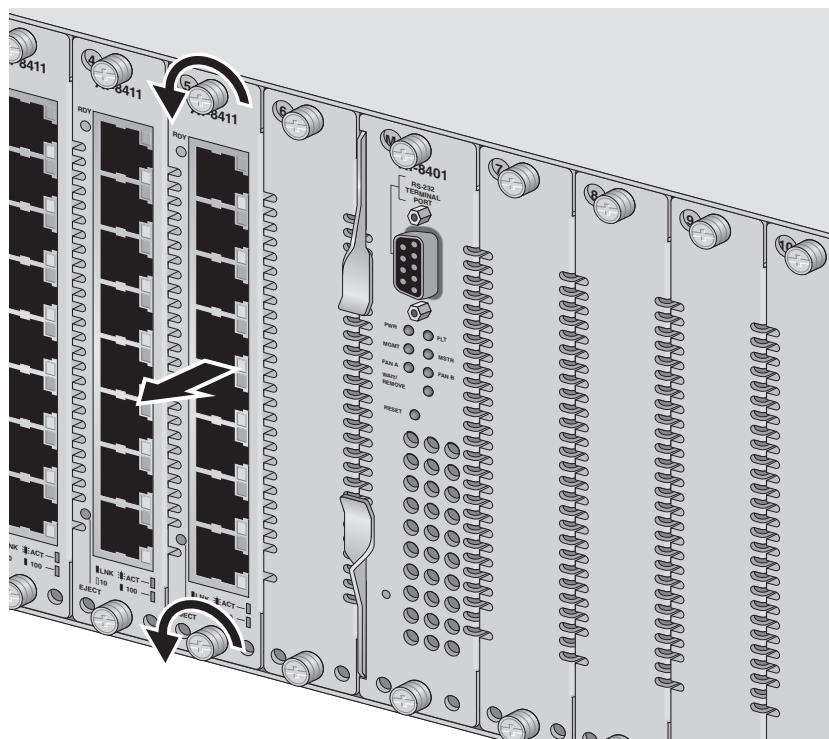

Figure 36 Removing an AT-8411 Line Card
- Using a Phillips screwdriver, loosen the two installation screws on the faceplate of the line card. See Figure 36.